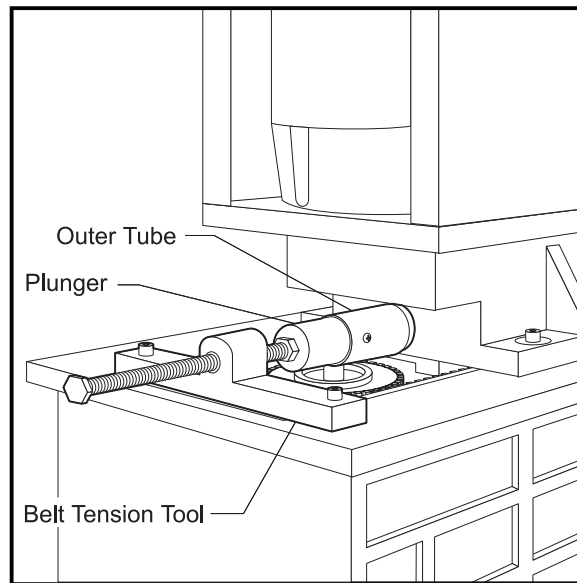

Figure 3-3. Belt tension tool.
5. Set the belt tension tool in place as shown in Figure 3-3. Mount it to the head casting by inserting the two SHCS into the two front TRP mounting holes. Tighten the SHCS finger tight.
7. Turn the handle until the edge of the tool's plunger and the outer tube are flush (see Figure 3-3). This will set the belt at the proper tension.
7. Turn the handle until the edge of the tool's plunger and the outer tube are flush (see Figure 3-3), and then 1/2 turn more. This will set the belt at the proper tension.